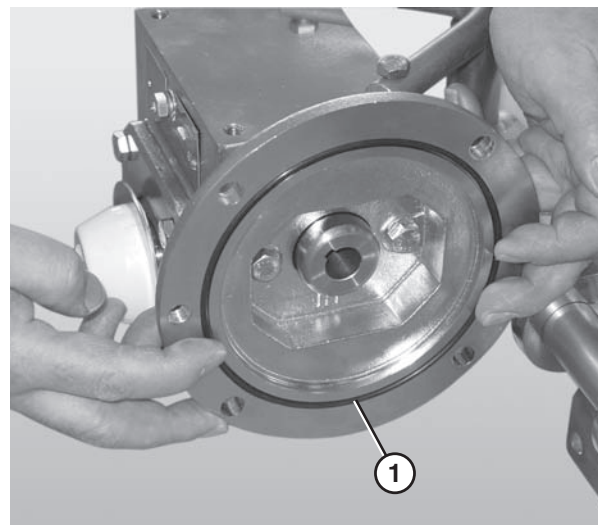

**Figure 39**
7. Insert the motor output shaft key (Figure 39, item 1) into the motor output shaft keyway (Figure 39, item 2).